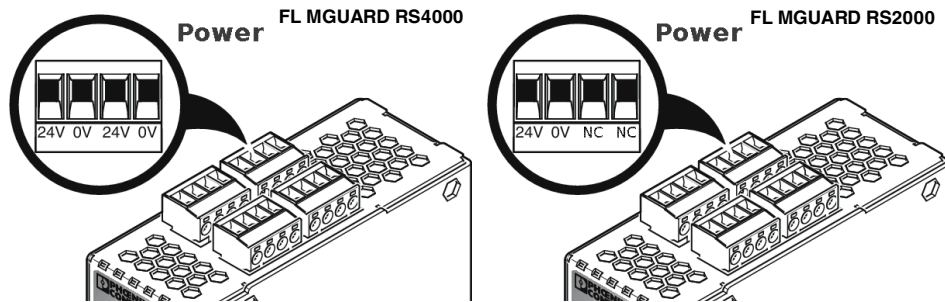

Figure 2-4 Connecting the supply voltage
- Insert the screw terminal blocks into the intended sockets on the top of the device (see Figure 2-4).